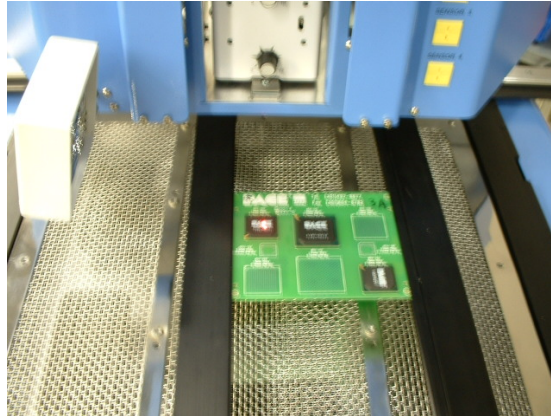

Figure 20
- ii. Position the board so the red laser sighting light is roughly in the center of the component. To move the board forward and back simply move the PCB in the arms. To move the assembly left and right, push the release handle away from you and move the assembly. Pull the release handle towards you to secure the assembly. (Figure 20)